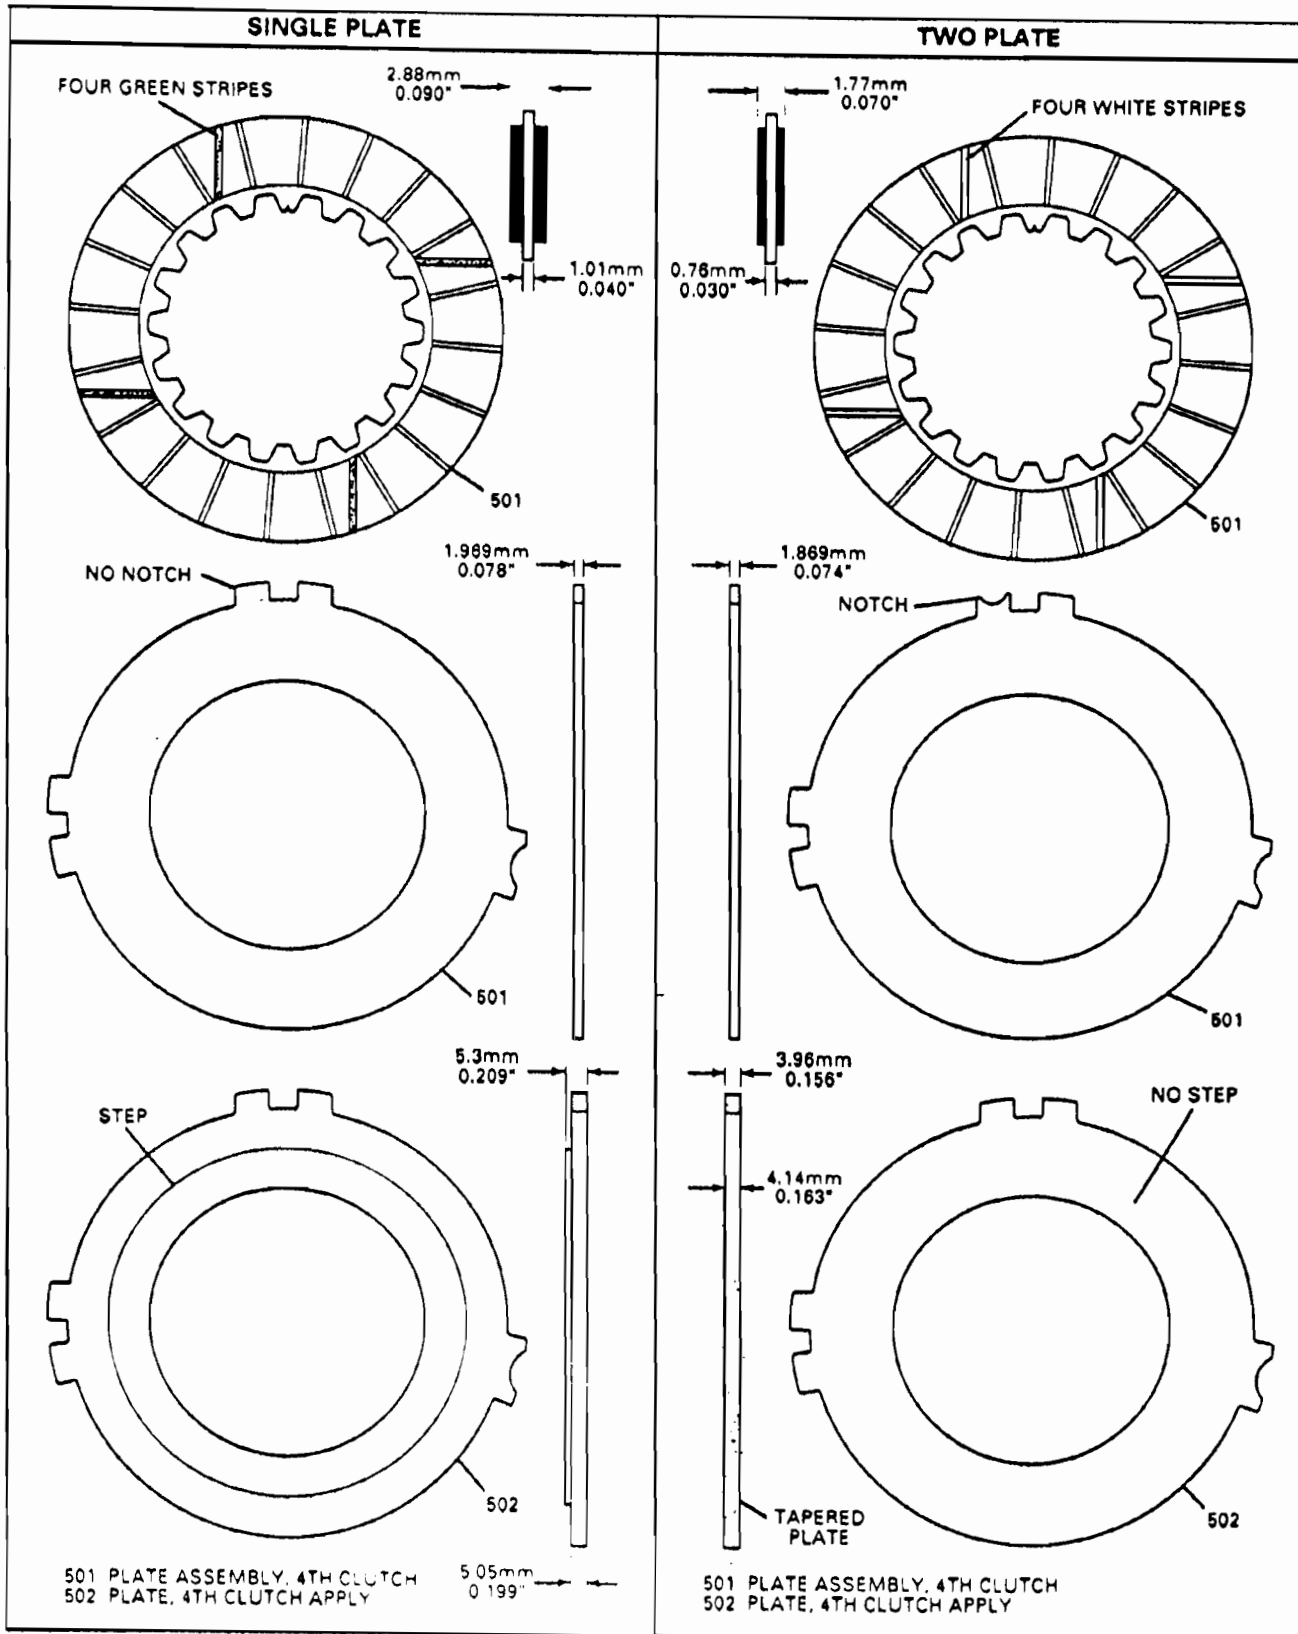

Figure 32
- (1) 4TH CLUTCH LINED PLATES - Were made thinner by .020" than the previous lined plate, and can be identified by the four WHITE stripes, while the single plate lined plate has four GREEN stripes (See Figure 32). The Single Plate 4th Clutch is .090" thick, and the new "Two Plate" 4th Clutch plates are .070" thick.
- (2) 4TH CLUTCH STEEL PLATES - Were made thinner by .004" than the previous plates, and can be identified by a "Notch" cut into one of the tabs (See Figure 32). The single plate 4th clutch steels are .078" thick, and the new "Two Plate" steels are .074" thick.
- (3) 4TH CLUTCH APPLY PLATE - Was machined thinner than the previous apply plate, and the step was removed. Refer to Figure 32.